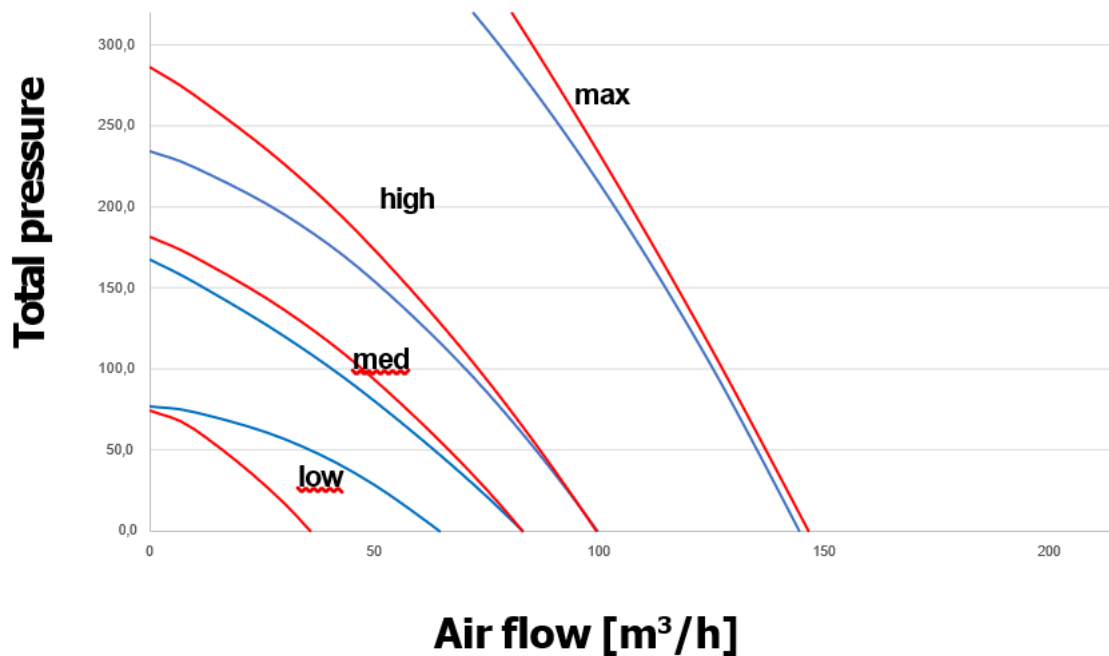

Figure 9. Total pressure for HRU-FlatAIR-125E
- HRU-FlatAIR-125E-H 125  $\text{m}^3/\text{h}$  (at 100 Pa) [Fig. 9]